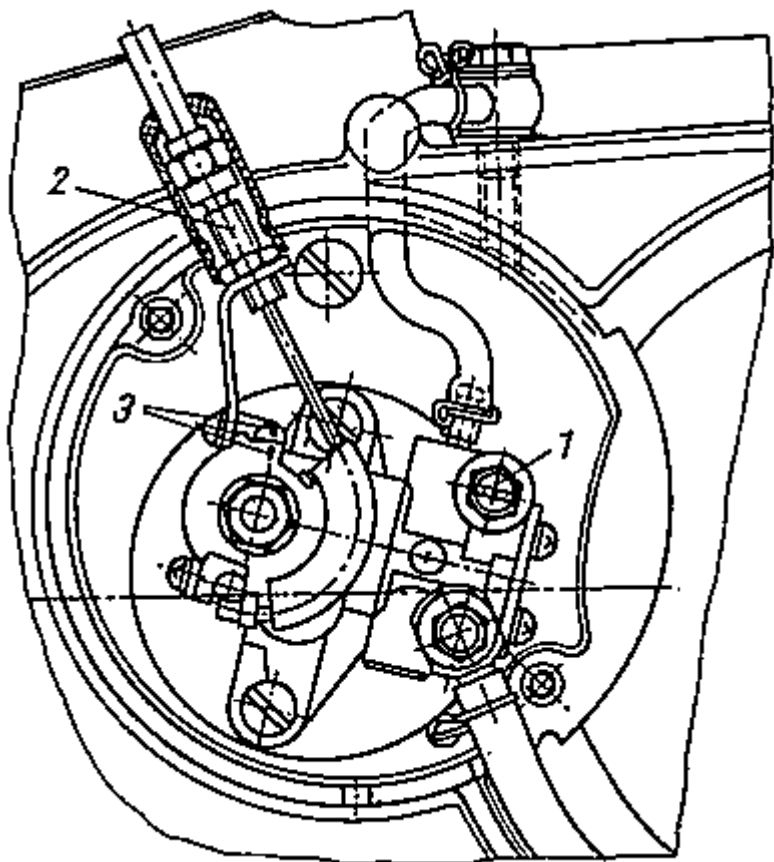

Fig. 40. Maintenance of the dosing pump
After every 5,000 km:	<ul style="list-style-type: none"> • lubricating the actuating cable control • checking the setting of the pump and, if required, re-adjusting it (Fig. 40) <p>When the markings (3) are not opposite, then</p> <ol style="list-style-type: none"> 1. remove the idling speed by screwing out the stop screw for the throttle valve (7, Fig. 21); 2. set the engine speed to 1,200 to 1,500 rpm by means of the throttle twist-grip;
Repairs	<ul style="list-style-type: none">• The oil pump is not intended for repairs. If required, have a new pump installed.• The fastening screws have to be tightened uniformly with a torque of maximum 2.5 Nm in order that the fastening flange of the pump will not be distorted.• Before putting into operation the new pump, bleed it (1, Fig. 40) and newly adjust the pump.